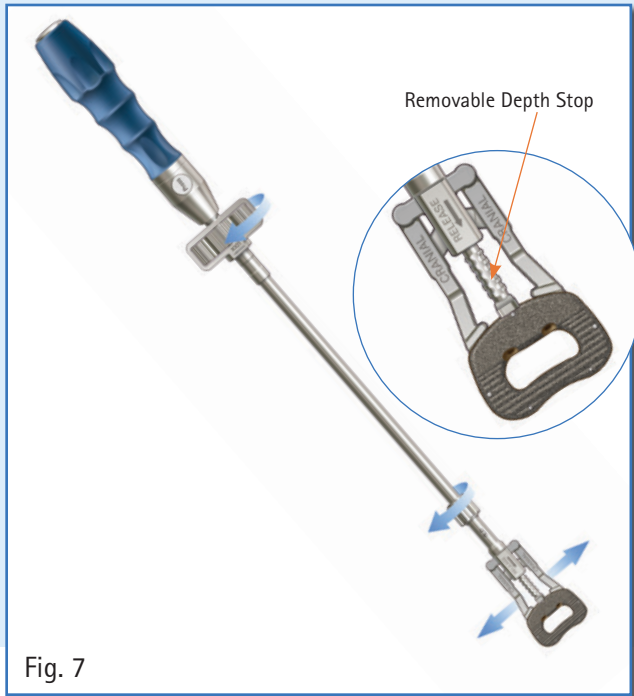

Fig. 7
- Attach the Arcadius®XP L implant to the implant insertion instrument (Fig. 7).